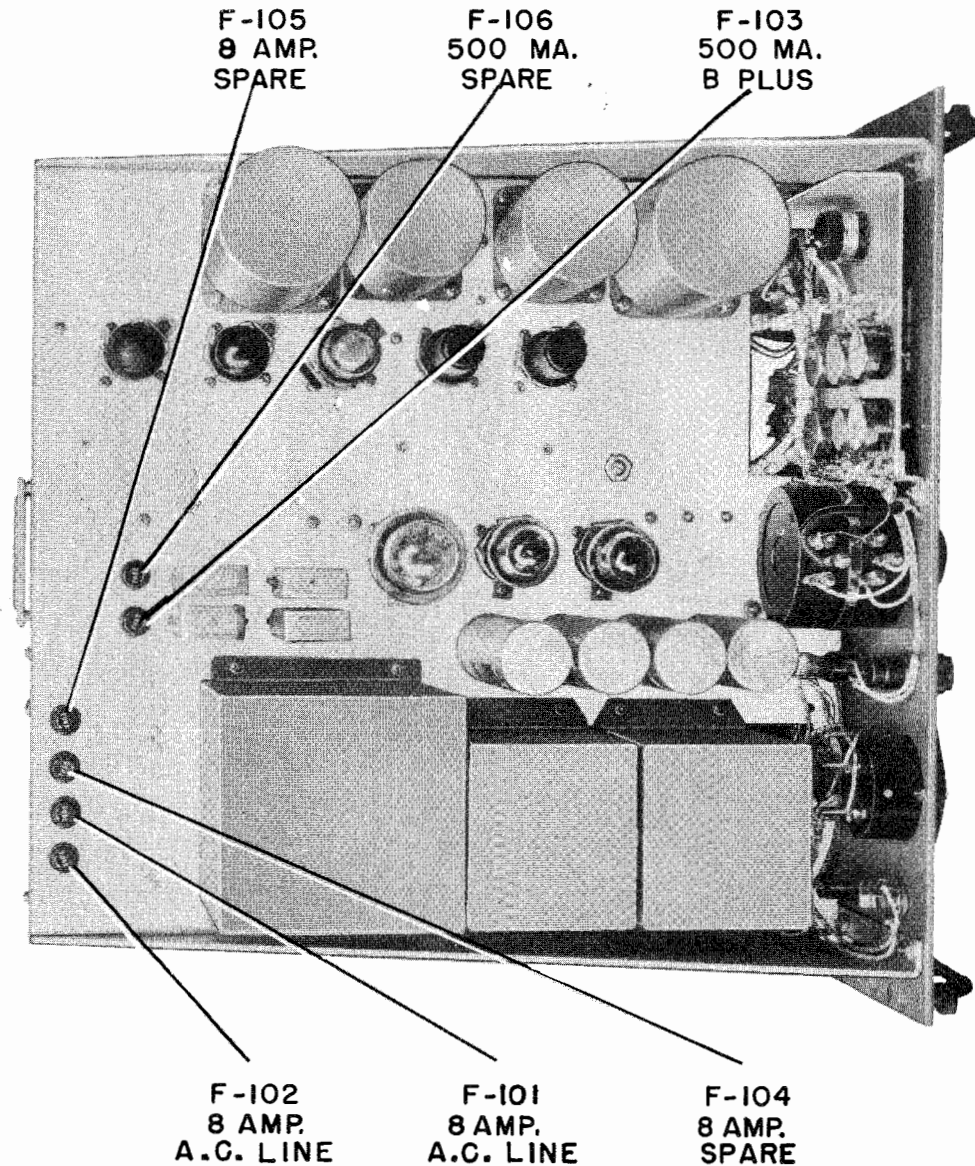

Figure 5-1. Fuse Locations, Modulator-Power Supply MD-165/URT
a. FUSES.—See Figure 5-1 for location of fuses.